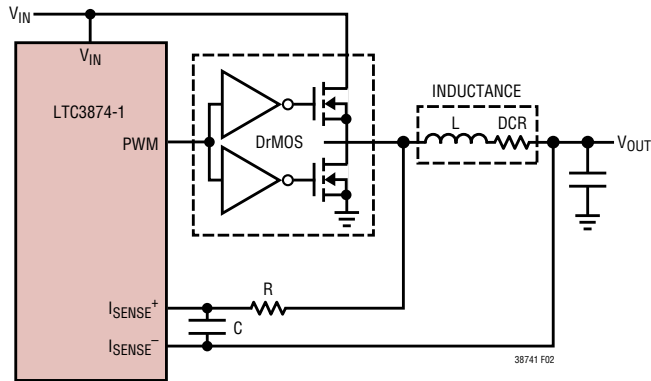

Figure 2 Inductor DCR Current Sensing
I_{SENSE+} and I_{SENSE-} are the inputs to the current comparators. When the LOWDCR pin is high, their common mode input voltage range is 0V to 3.5V. I_{SENSE-} should be connected directly to V_{OUT} of the master controller. I_{SENSE+} is connected to an R • C filter with time constant one-fifth of L/DCR of the output inductor. Care must be taken not to float these pins during normal operation. Filter components, especially capacitors, must be placed close to the LTC3874-1, and the sense lines should run close together to a Kelvin connection underneath the current sense element. The LTC3874-1 is designed to be used with a sub-milliohm DCR value; without proper care, parasitic resistance, capacitance and inductance will degrade the current sense signal integrity, making the programmed current limit unpredictable. In Figure 2, resistor R must be placed close to the output inductor and capacitor C close to the IC pins to prevent noise coupling to the sense signal.
The LTC3874-1 is specifically designed for high load current applications requiring the highest possible efficiency; it is capable of sensing the signal of an inductor DCR in the sub-milliohm range (Figure 2). The DCR is the DC winding resistance of the inductor's copper, which is often less than 1mΩ for high current inductors. In high current and low output voltage applications, conduction loss of a high DCR or a sense resistor will cause a significant reduction in power efficiency. For a specific output requirement, choose the inductor with the DCR that satisfies the maximum desirable sense voltage, and use the relationship of the sense pin filters to output inductor characteristics as depicted below.
4. Keep the switching nodes (SW1, SW0), away from sensitive small-signal nodes, especially from the opposite channel's current sensing feedback pins. All of these nodes have very large and fast moving signals and therefore should be kept on the output side of the LTC3874-1 and occupy minimum PC trace area. If DCR sensing is used, place the resistor (Figure 2, "R") close to the switching node.